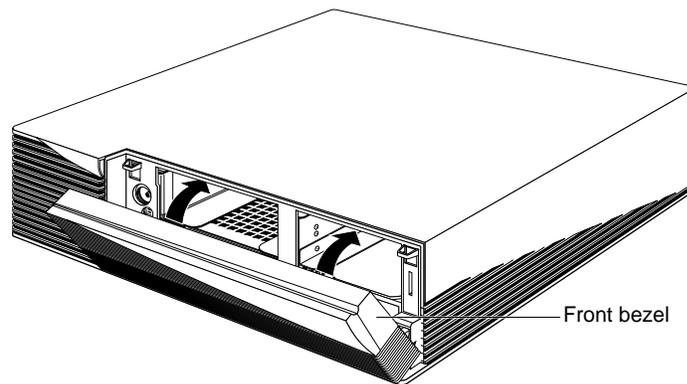

Figure 18 Replacing the front bezel on the Indigo² chassis.
- Place the tabs on the bottom of the bezel in the grooves in the front of the chassis, as shown in Figure 18.